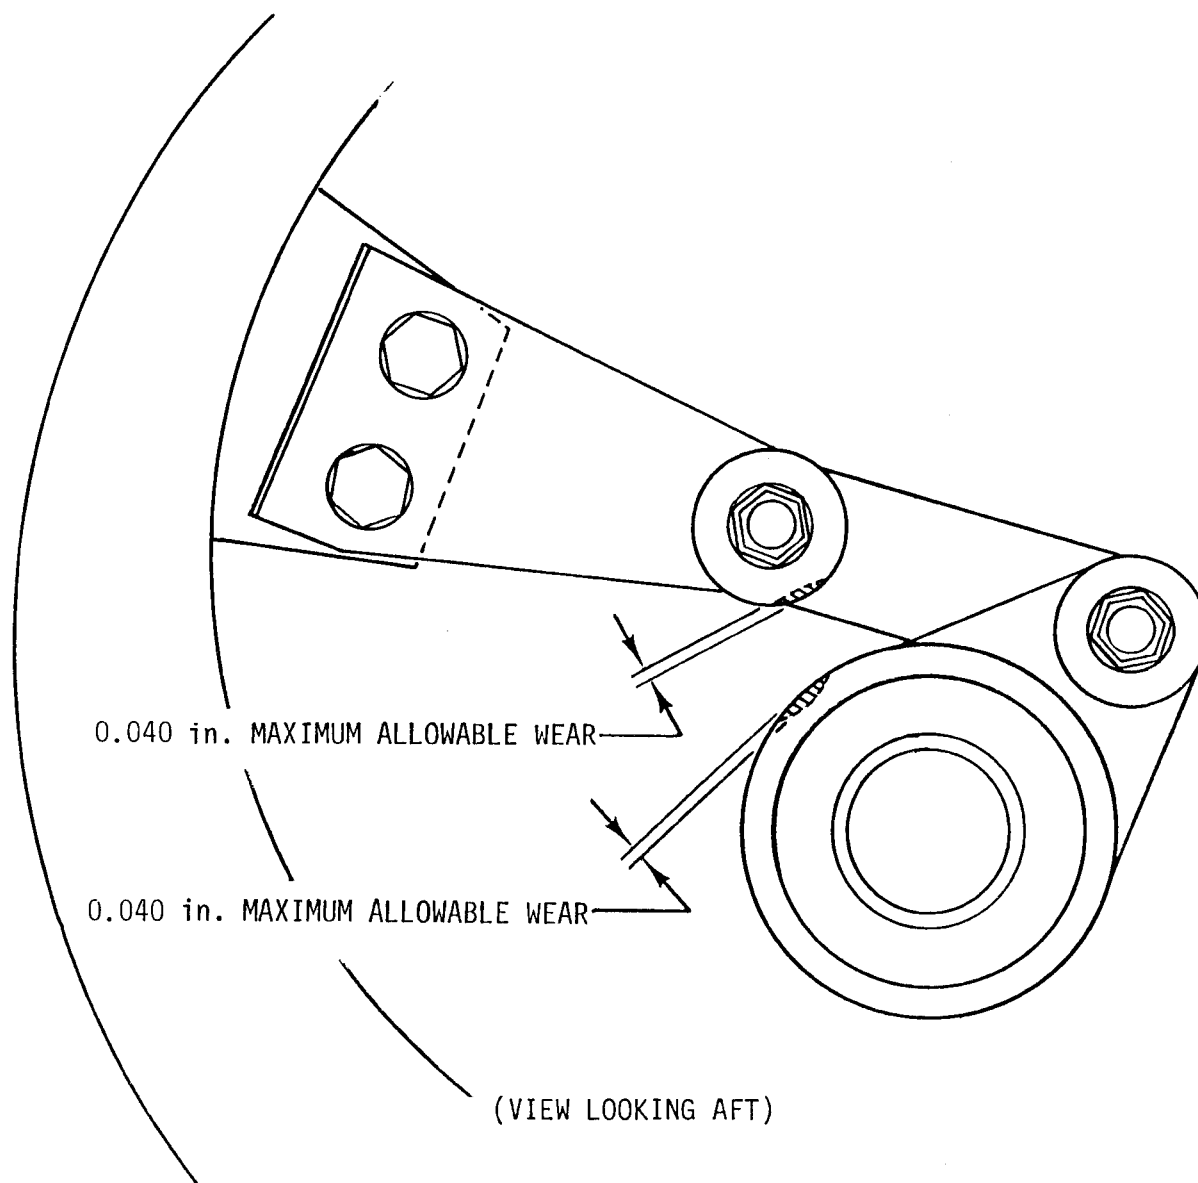

FIGURE 2-6 DAMPER BEARING HOUSING WEAR LIMITS
**Damper:** Inspect condition. Verify security. Verify bearing housing wear is within Figure 2-6 limits. \_\_\_\_\_